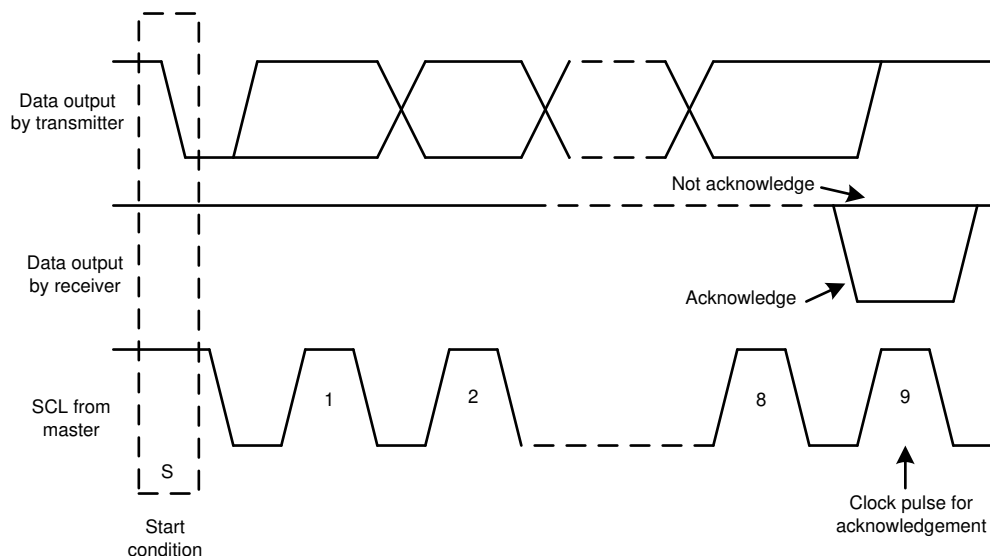
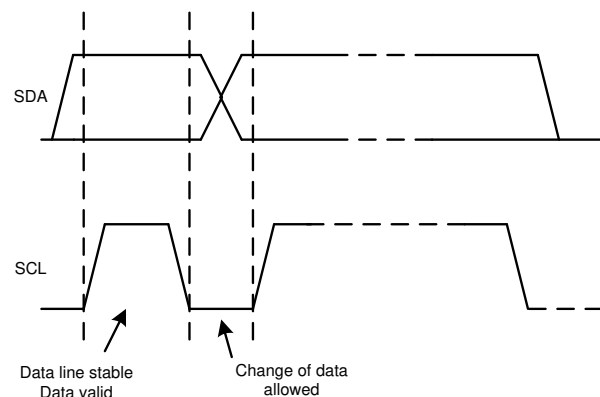

Figure 7-2. Acknowledge and Not Acknowledge on the I²C Bus
Figure 7-4. Bit Transfer on the I²C Bus
Other than specific timing signals, the I²C interface works with serial bytes. At the end of each byte, a ninth clock cycle generates and detects an acknowledge signal. Acknowledge is when the SDA line is pulled low during the high period of the ninth clock cycle. A not-acknowledge is when the SDA line is left high during the high period of the ninth clock cycle as shown in Figure 7-2.
2. The master then generates the SCL pulses, and transmits the 7-bit address and the read/write direction bit ($\overline{R/\overline{W}}$) on the SDA line. During all transmissions, the master makes sure that data are valid. A valid data condition requires the SDA line to be stable during the entire high period of the clock pulse, as shown in Figure 7-4. All devices recognize the address sent by the master and compare the address to the respective internal fixed address. Only the slave device with a matching address generates an acknowledge by pulling the SDA line low during the entire high period of the ninth SCL cycle, as shown in Figure 7-2. When the master detects this acknowledge, the communication link with a slave has been established.
4. To signal the end of the data transfer, the master generates a stop condition by pulling the SDA line from low-to-high while the SCL line is high (see Figure 7-4). This action releases the bus and stops the communication link with the addressed slave. All I²C-compatible devices recognize the stop condition. Upon receipt of a stop condition, the bus is released, and all slave devices then wait for a start condition followed by a matching address.